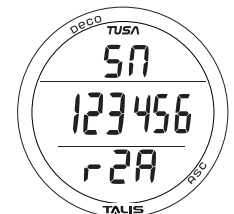

Fig. 44 - SERIAL NUMBER
**SERIAL NUMBER (SN)**, information includes (Fig. 44):